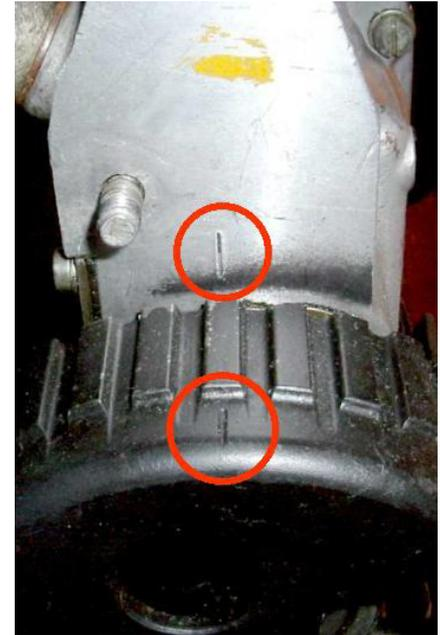

Fig 21. Injection Pump Timing Marks
2. Time injection pump to engine. First, set the engine to "P" (TDC) at the beginning of the #4 (NUMBER FOUR) cylinder power stroke, then rotate the engine CCW (as you're looking towards the rear of the car from the front) to the "I" mark (70 deg BTDC). Next line up the index marks on the front of the injection pump body and pulley as shown in Fig. 21. Install the new belt on the crankshaft pulley first. The belt will slip through the small slit between the crankshaft and the front cover. Then, without changing the position of the crankshaft or injection pump pulley, slip the new timing belt onto the injection pump pulley. Do not use levers or sharp objects. Using some WD-40 is ok.